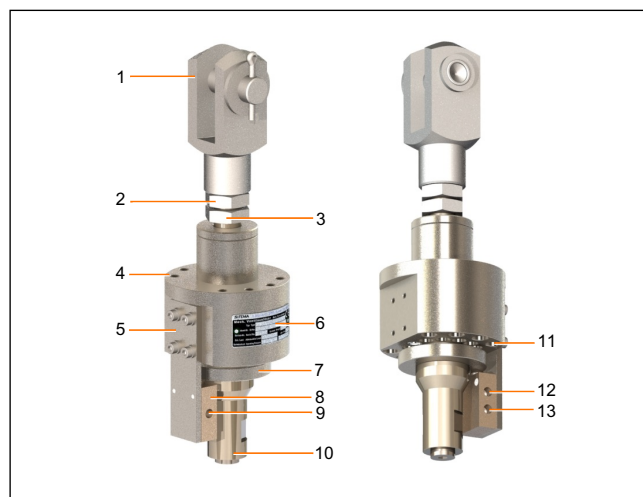

Fig. 1: Overview MVA (example design)
The traction of the tensioned suspension element on the switch rod (10), Fig. 1 keeps the stop ring (7), from contacting the slide of the pneumatic valve (8). The pneumatic valve is not actuated in this state. When the lifting force of the suspension element falls below a critical value (e.g. in the event of rupture of the suspension element, etc.), the switch rod (10) moves down and presses the stop ring onto the slide of the pneumatic valve. The pneumatic valve is actuated, and the pneumatic component is activated.
Pneumatic ports 1, 2 and 3 see (9), (12), (13), Fig. 1 can be assigned as required. Depending on the application, this allows the initial position (not actuated/actuated) to be defined as closed or open.